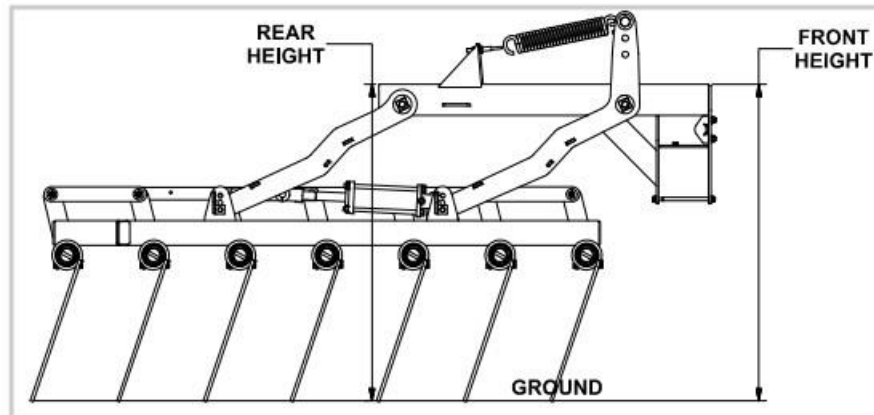

FIGURE 11
3. Measure from the top of tubing on one of the lift arms to the ground (fig. 11).
4. Repeat measurement on the other end of the lift arm (fig. 11).